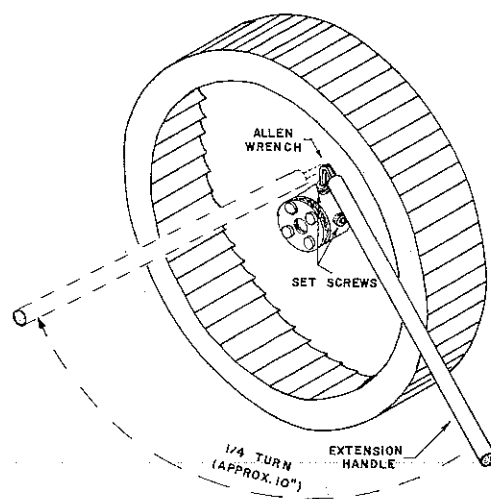

FIG. 17
- b. Using a small diameter steel pipe, 12 inches (305mm) long for an extension handle, turn set screw an additional 1/4 turn. An additional visual check may be made by measuring the amount of travel of the extension handle (See Fig. 17) of approximately 10" (254mm)